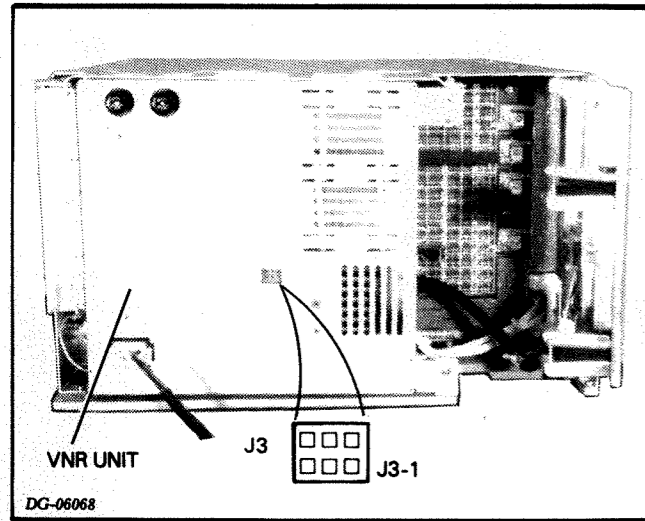

Figure 6.9 JACK 3
- b. Check the **BAT+** voltage at jack J3-1 (see Figure 6.9).
- If **BAT+** is **NOT** greater than 12V, then measure the voltage **DIFFERENCE** between J3-5 and J3-6 (see Figure 6.9). If it is greater than one volt, replace the battery; otherwise, replace the VNR unit.